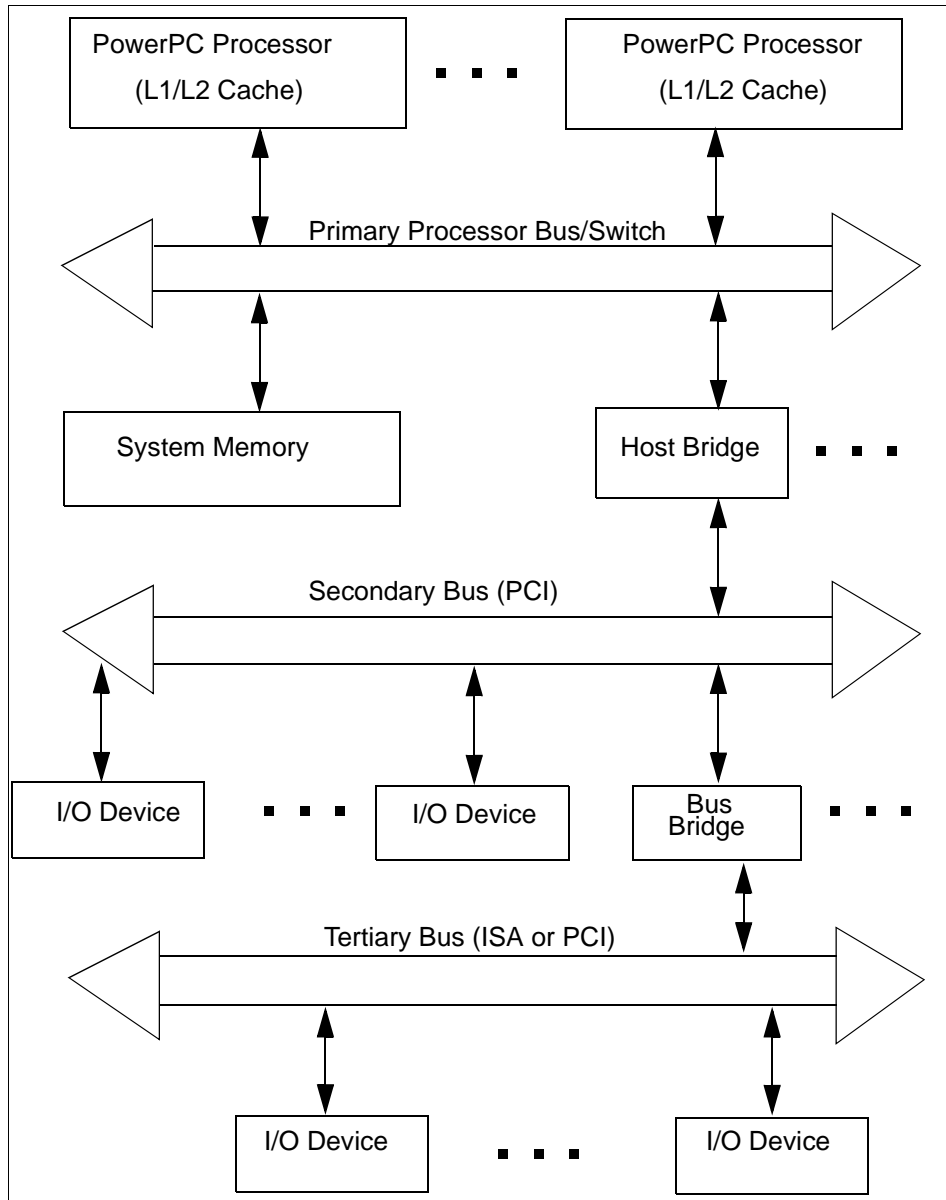

Figure 7. General Platform Topology
Figure 7 on page 23 shows a general platform topology of the RS/6000 Platform Architecture. All platforms (from notebooks to high-end servers) consist of one or more PowerPC microprocessors, a volatile system memory separate from other subsystems, and a number of I/O devices, that may initiate transactions to system memory.
- In a smaller platform, the host bridge, memory, or an I/O device may be integrated into a single chip. In this case, the topology would not look like Figure 7 on page 23, from a chip point of view, but, instead, would be integrated onto the single chip.